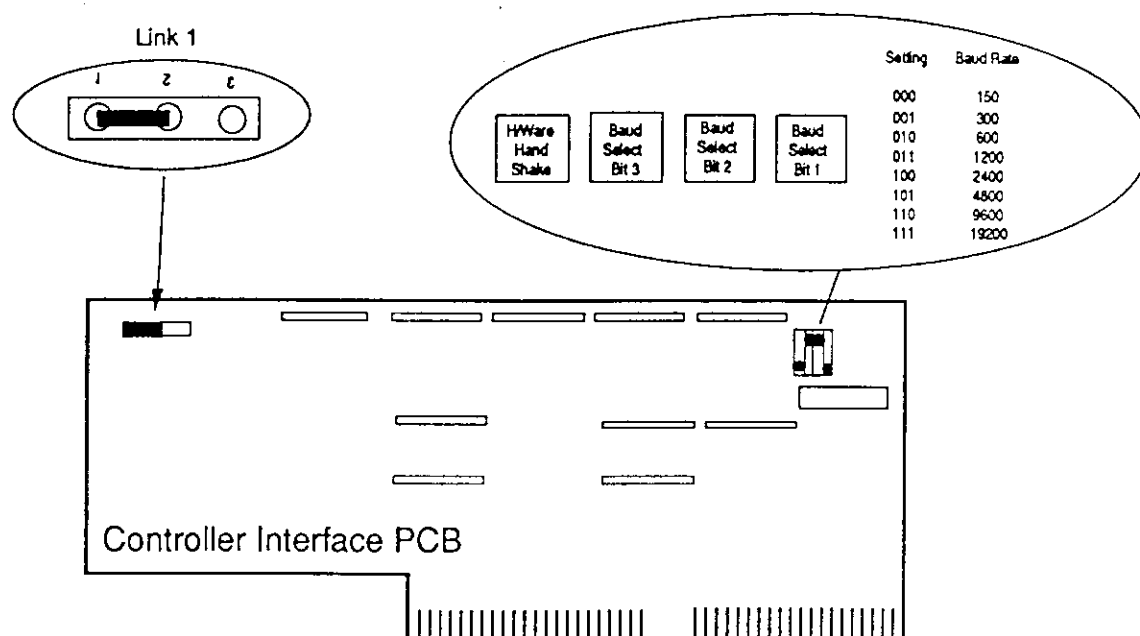

Figure 4 - Controller Interface PCB
- (1) Lay the old and replacement unit side by side and locate Link connector 1, Figure 4 refers.
- (2) If the replacement PCB is **not** fitted with Link 1, remove from old PCB and fit to new PCB. If link is incorrectly fitted, fit to correct position.
- (3) Locate the 4 DIL switches, Figure 4 refers.
- (4) Set the DIL switches on the replacement unit to the same as the old unit to retain the same RS232 Baud Rate.